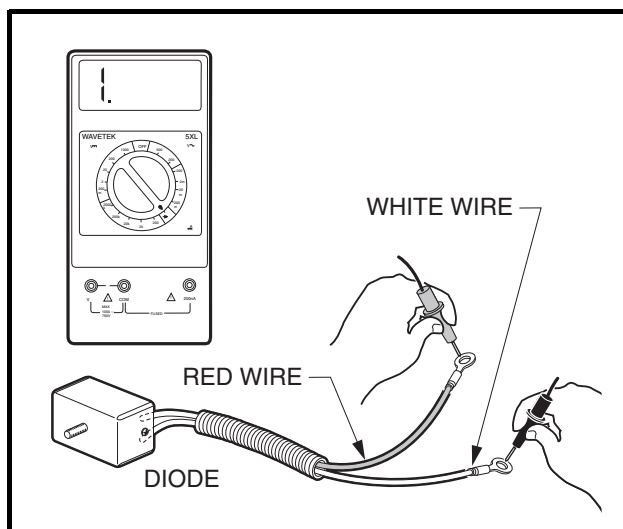

Figure 11-20 Diode Test
- 3.3. Remove the locknuts (7) from the two large solenoid posts and disconnect the diode wires from the solenoid.
4. With the multimeter set to the diode test function (→←), connect the black (–) probe of the multimeter to the white lead of the diode and the red (+) probe of the multimeter to the red lead of the diode (**Figure 11-20, Page 11-21**). The reading should indicate an overload (no continuity). A diode is designed to conduct current in one direction only. If a diode conducts current (shows continuity) with the meter probes as described, the diode has failed and must be replaced. **See Diode Removal, Section 12, Page 12-12.**